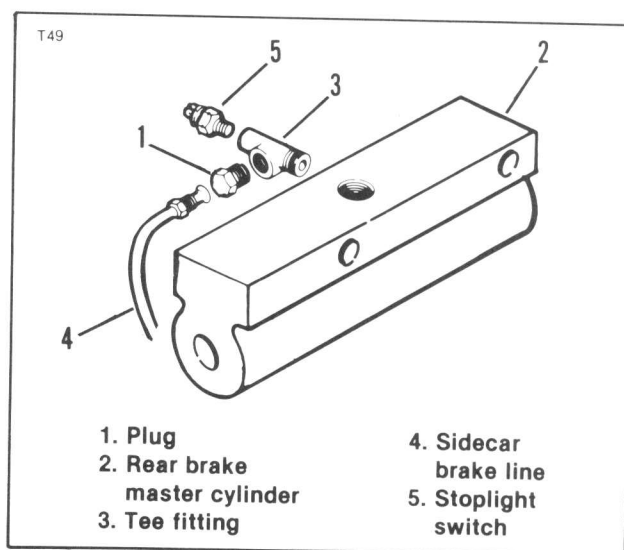

Figure 6-12. Sidecar Brake Line Connection
1. See Figure 6-12. Remove plug (1), Part No. 42311-58, from rear brake master cylinder tee-fitting (3). Retain plug for use on motorcycle when sidecar is removed.
2. Install brake line (4) from sidecar to rear brake master cylinder tee-fitting and tighten.